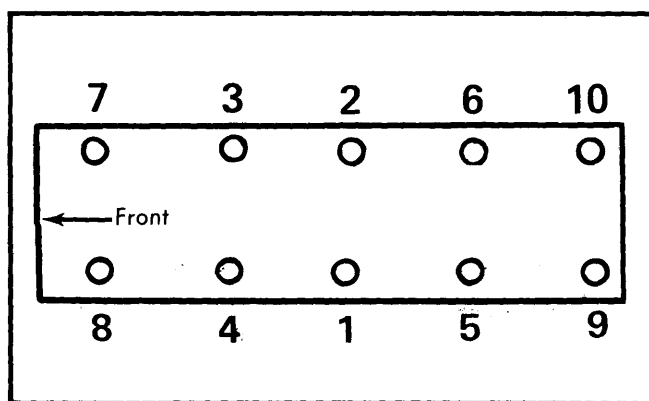

Fig. 1 Cylinder Head Tightening Sequence
2) Apply Loctite No. 514 or GM No. 1052357 Sealer (or equivalent) to top of head or cam carrier mating surfaces. Coat head bolts with engine oil and tighten in sequence. See Fig. 1. Reverse removal procedure to complete installation.